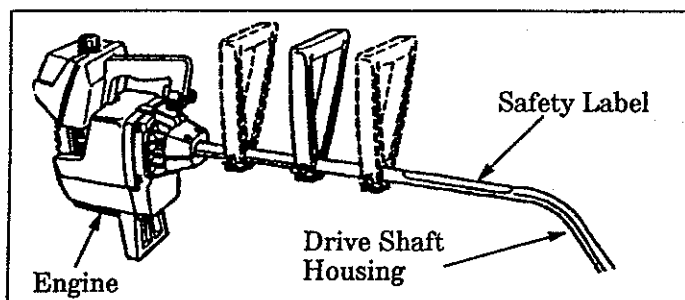

Figure 4
CAUTION: When adjusting the Assist Handle for comfort, be sure that the Assist Handle remains between the Engine and the Safety Label on Drive Shaft Housing. Figure 4.
- Adjust Assist Handle up or down the Shaft Housing for comfort. Figure 4.